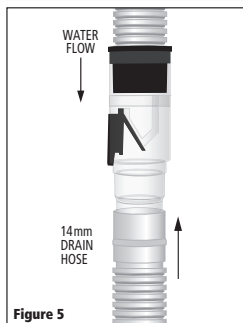

Figure 5
7. Fit Hose/Trap assembly to wall with 2 pipe brackets 3" from Trap (**Figure 5**).